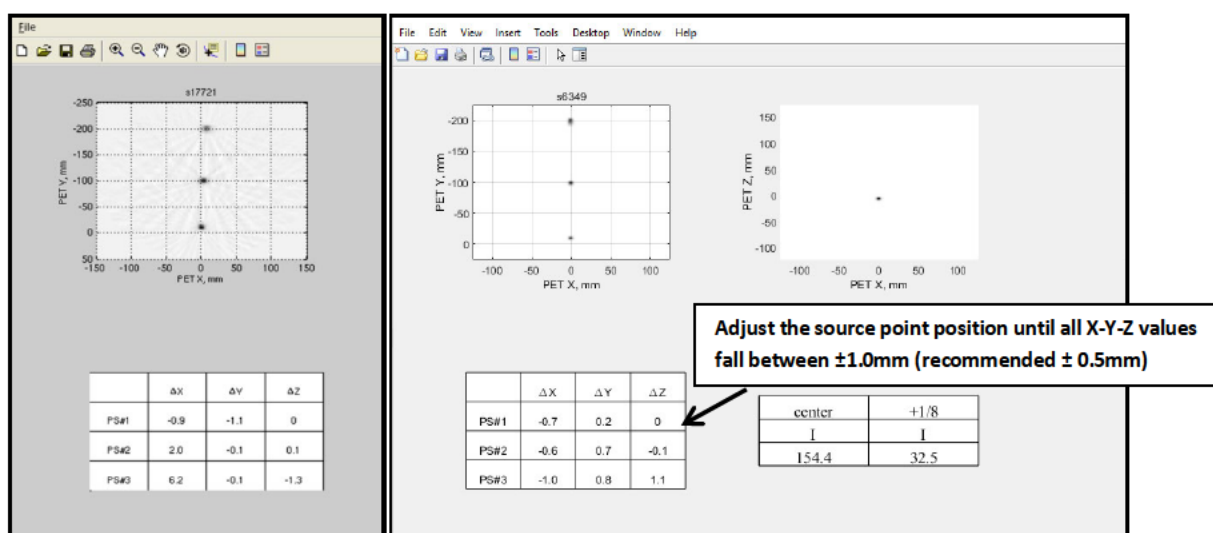

Figure 2.7: Check Position Results Panel with different misaligned examples (example for Omni Legend 32 cm axial FOV).
9. Refer to Figure 2.7. Review the contents of the table in the lower left corner of the right plot.
- In Figure 2.7 (Left) example, point source #1, point source #2 and point source #3 are all inclined to the right when looked from the CT side of the gantry. The differences in X offsets of point source #1 and point source #3, and point source #2 and point source #3 are more than 1.0 mm. In Figure 2.7 (Right), the positions of point source #1 and point source #2 are inside acceptable range, while the position of point source #3 falls outside the acceptable range in the Z-axis direction. Refer to page 20 for instructions to correct such problems.
- **Points are inclined to the right (i.e. the X-offset values increase from lowest point (#1) to the top point (#3)):** If the absolute difference in X-offset between PS#1 and PS#2 is > 1.0 mm, and the absolute difference in X-offset between PS#2 and PS#3 is > 1.0 mm (example shown in Figure 2.7 (left)), slide a shim under the phantom on the left side looking from the back of the gantry. Note that this process may require few iterations until the respective differences between the sources come under ± 1.0 mm.